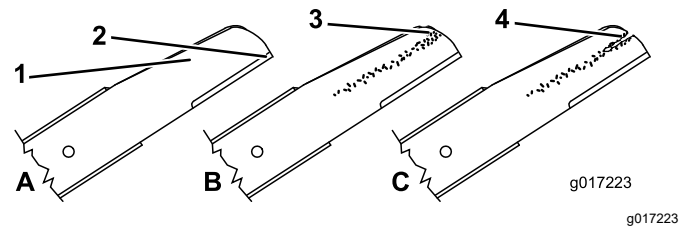

Figure 30
1. Inspect the cutting edges (Figure 30). If the edges are not sharp or have nicks, remove the blades and have them sharpened or replace them.
2. Inspect the blades themselves, especially the curved area (Figure 30). If you notice any damage, wear, or a slot forming in this area, immediately replace them with new blades.